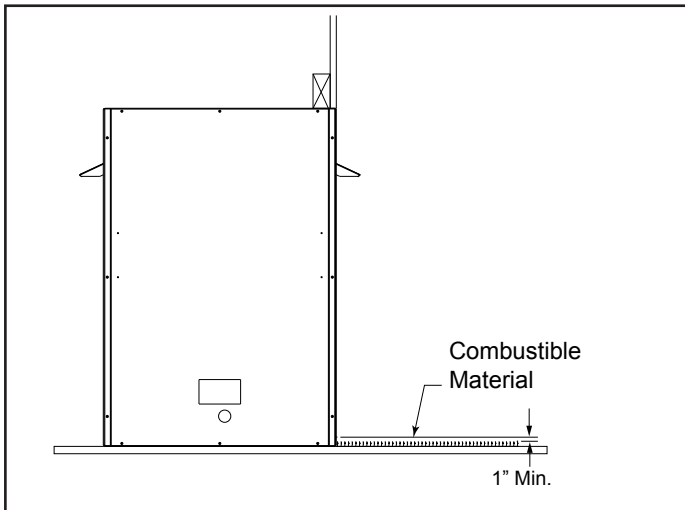

Figure 6.5 Floor Clearance Above Combustible Flooring Material
6. **Floor clearance:** This inner chamber firebox floor must be installed at least 1" above any combustible flooring material, such as carpeting or asphalt tile, which is closer than 14" to the base of the firebox. See Figure 6.5.